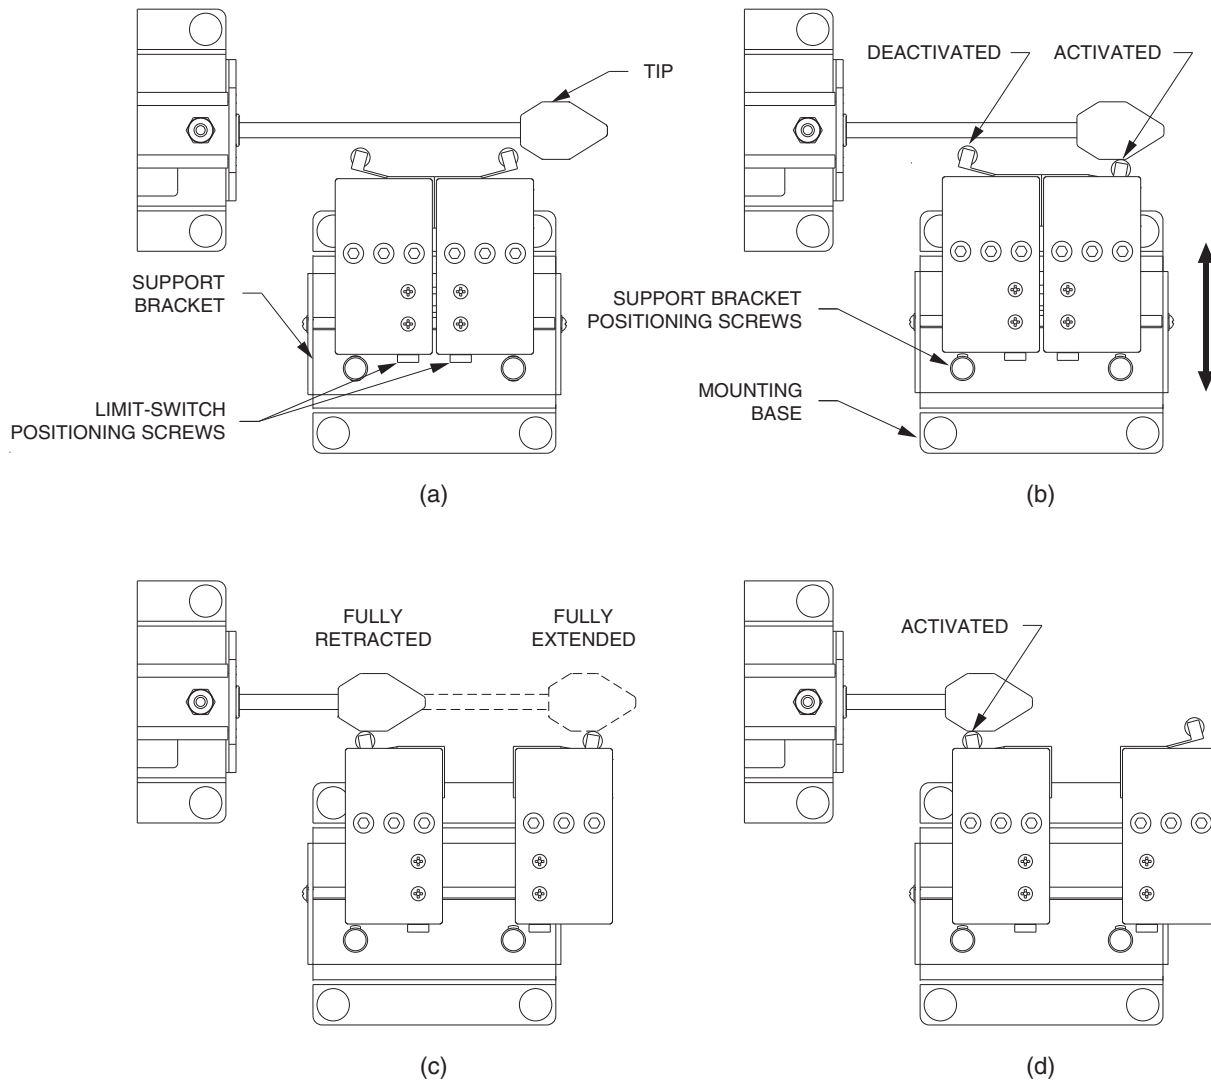

Figure 3-6. Mounting of the Limit Switch Assembly.
- Clamp the limit switch assembly along the cylinder rod as shown in Figure 3-6.
- Loosen the limit switch positioning screws. Position the switches side by side at the center of the support bracket, as shown in Figure 3-6 (a). Tighten the limit-switch positioning screws.
- Loosen the support-bracket positioning screws until you are able to slide the bracket over the mounting base as shown in Figure 3-6 (b). Adjust the position of the bracket so that the switches are activated when the cylinder tip pushes against the switch arm and deactivated when the cylinder tip releases the switch arm. To test this out, manually extend and retract the cylinder rod, and listen for the "click". Then, tighten the support-bracket positioning screws on the mounting base.
- Loosen the positioning screw on each limit switch. Adjust the positioning of the switches so that they are activated when the cylinder rod is fully extended and fully retracted, as shown in Figure 3-6 (c). To test this out, manually extend and retract the cylinder rod, and listen for the click. Then, tighten the limit-switch positioning screws.
- Retract the cylinder rod completely, as shown in Figure 3-6 (d).